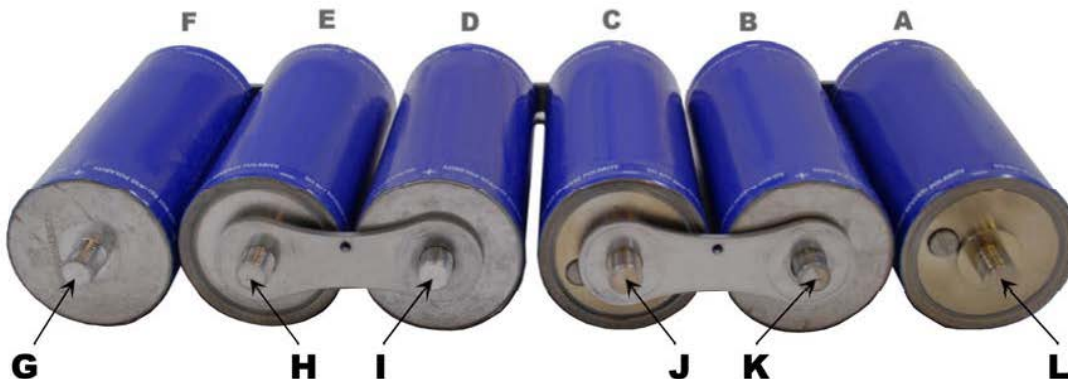

Figure 6
3.2.5 Turn the cells around so that the threaded terminals opposite to terminals A - F are facing you. Place buss bars over the middle pairs of threaded terminals (marked H, I, J and K in Figure 6), with antioxidant facing towards capacitor.